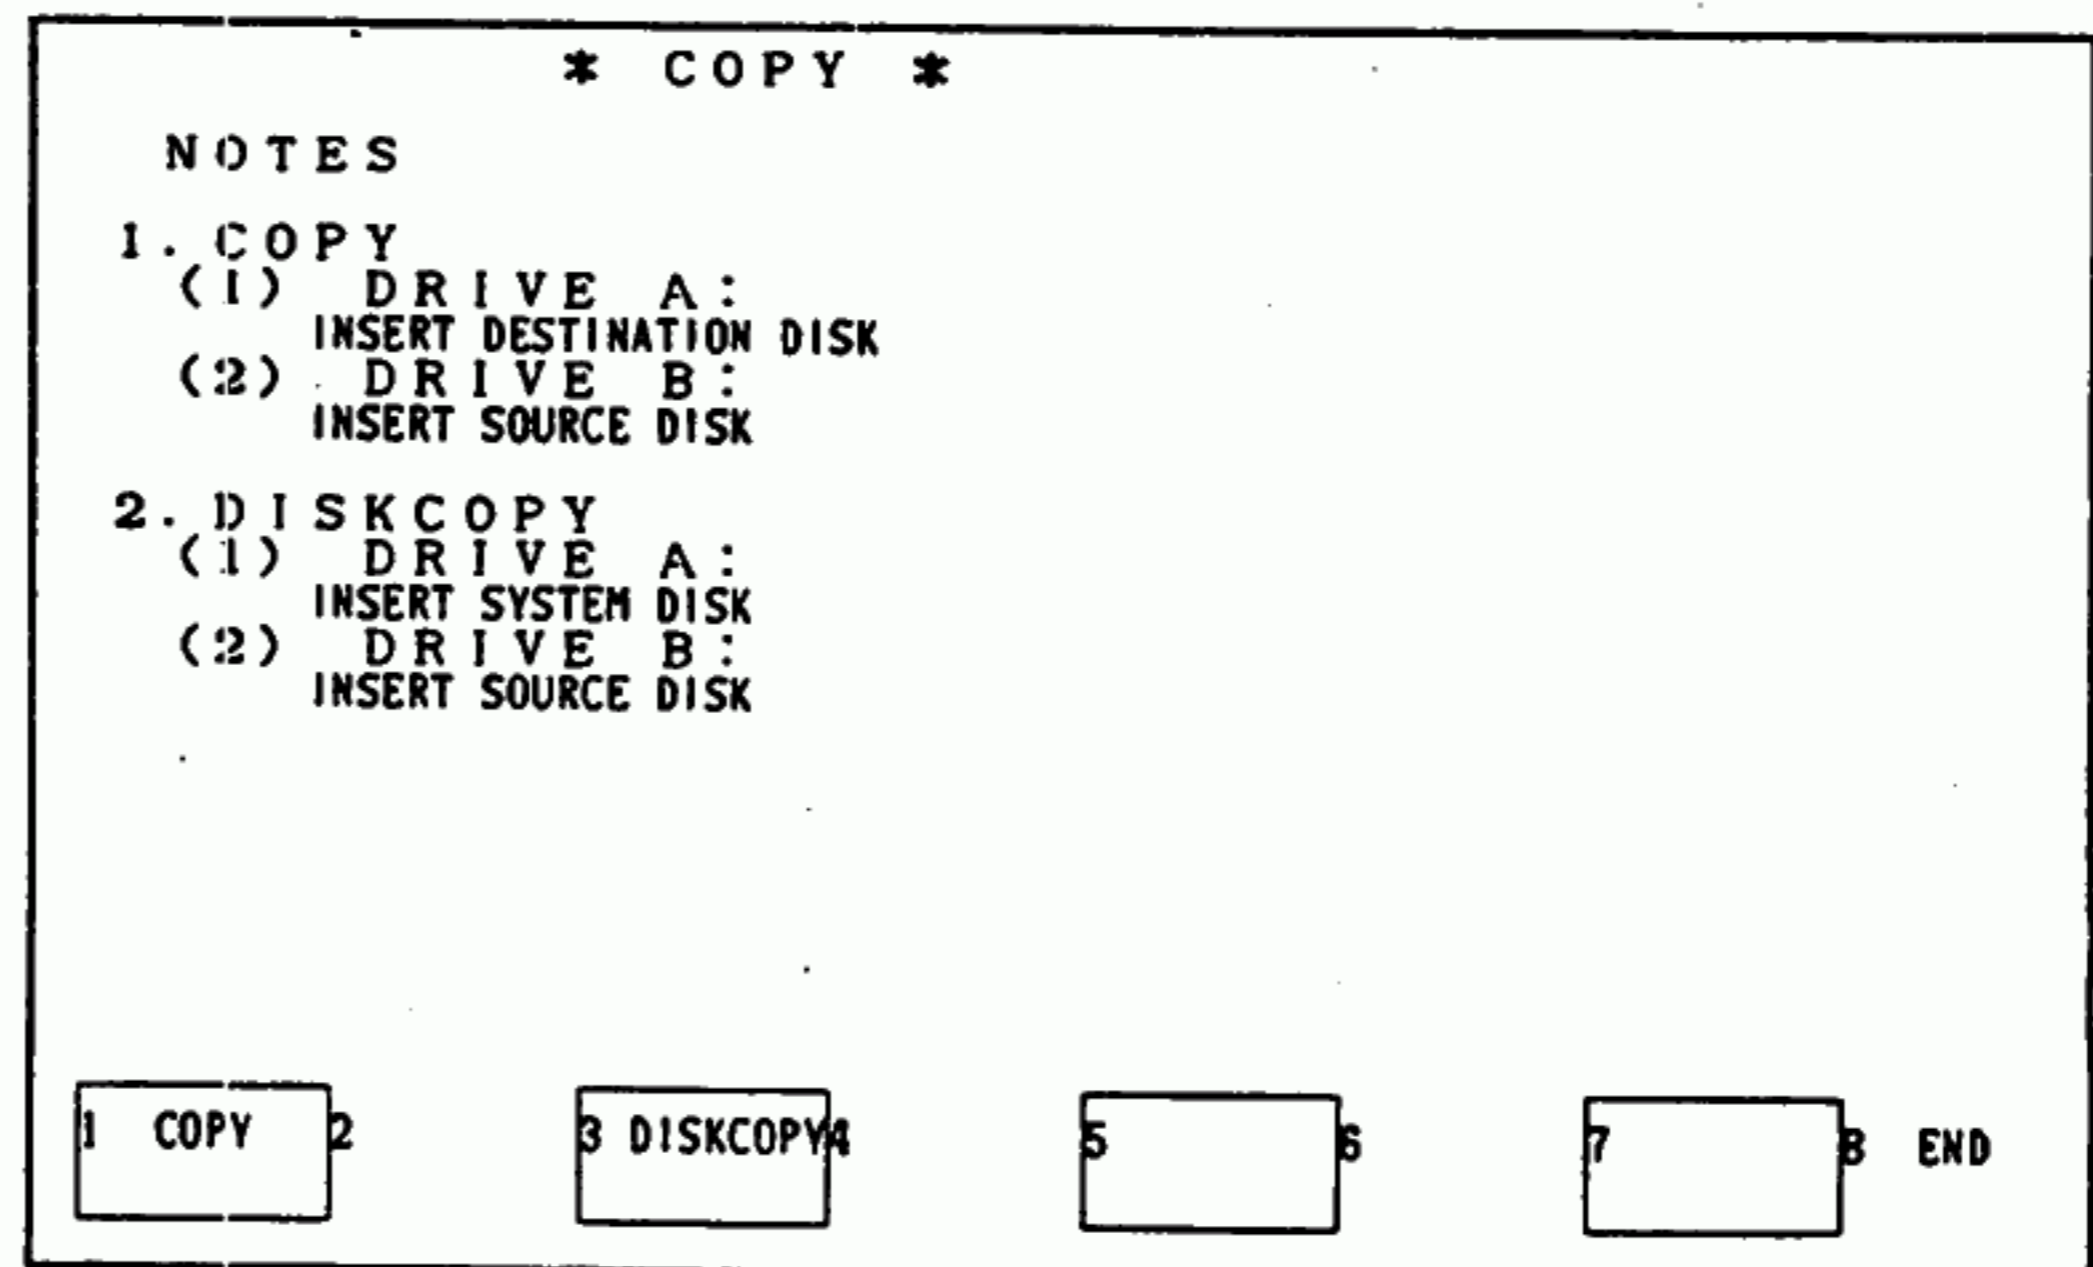

Fig. 4.219
2. Depressing **CANCEL** key (Fig. 4.221) returns the display shown in Fig. 4.219.
2. Depressing **CANCEL** key (Fig. 4.222) returns the display shown in Fig. 4.219.